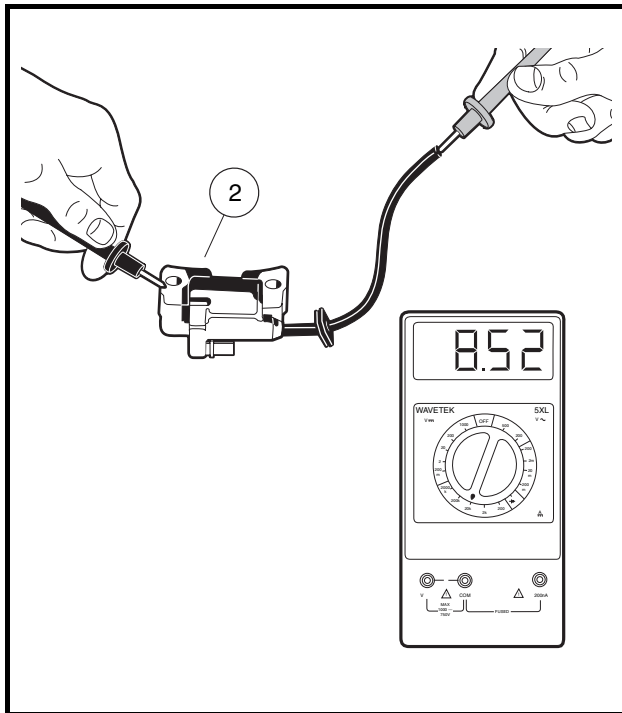

Figure 11-33 Secondary Coil Resistance – Bench Test
- 5.1. Using a multimeter set to 20k ohms, place the red (+) probe of the multimeter into the end of the spark plug wire and place the black (-) probe on the core (2) (**Figure 11-33, Page 11-30**). If the resistance is between 6.0k - 11.0k ohms, the secondary coil is within acceptable limits. If the resistance is not between 6.0k - 11.0k ohms, the ignition coil has failed and must be replaced.